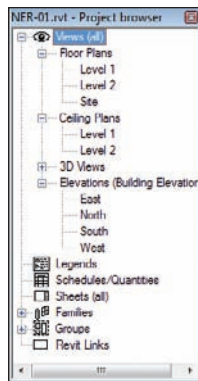

FIGURE 1.46 The Project Browser is your new Windows Explorer.
1. To the far left of the Revit dialog is the Project Browser (see Figure 1.46).